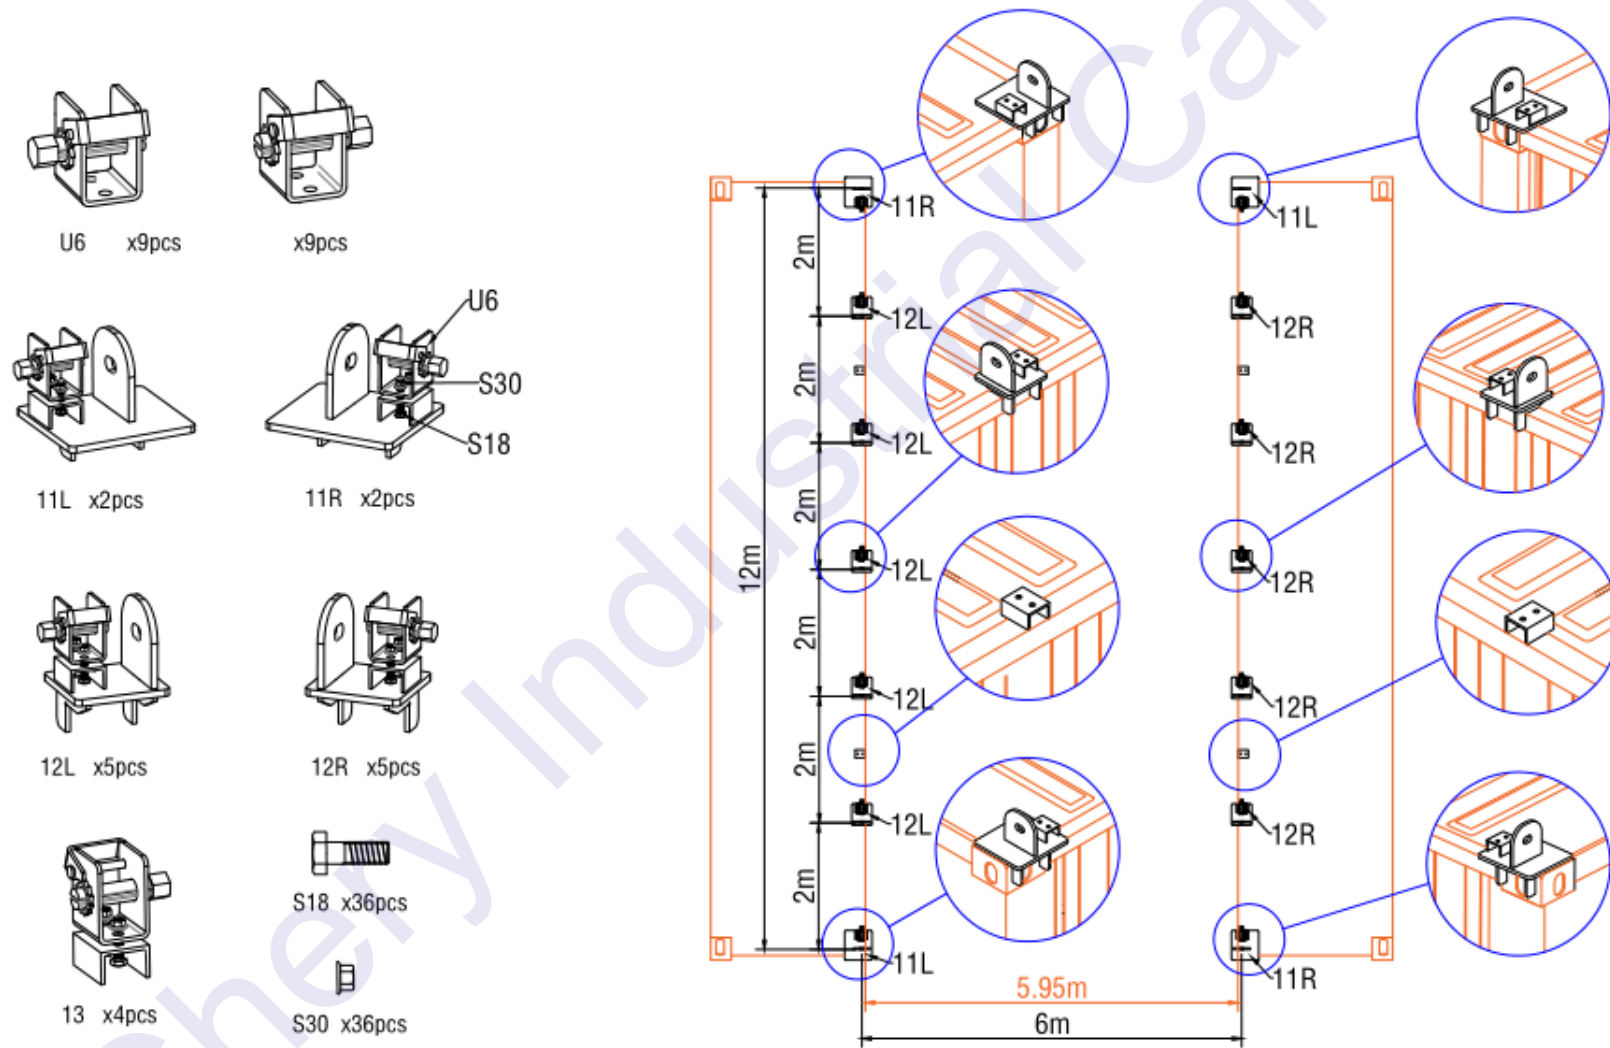

Figure 1
B. **Measure diagonally from centre to centre of the tubes.** These measurements should be the same as below Figure 1 shows. **Base plates (11L/11R/12L/12R) must be fully welded inside and outside.** Part no.13 doesn't need to be welded in advance. The welding position can be determined according to the strap position of the roof cover when the roof cover is installed.